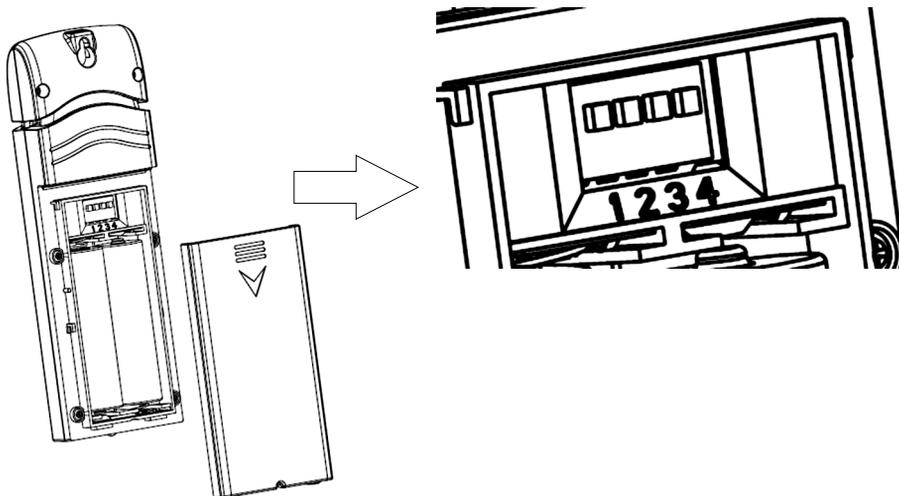

Figure 4.
2. Remove the battery door on the back of the thermo-hygrometer sensor by sliding down the battery door, as shown in Figure 4.